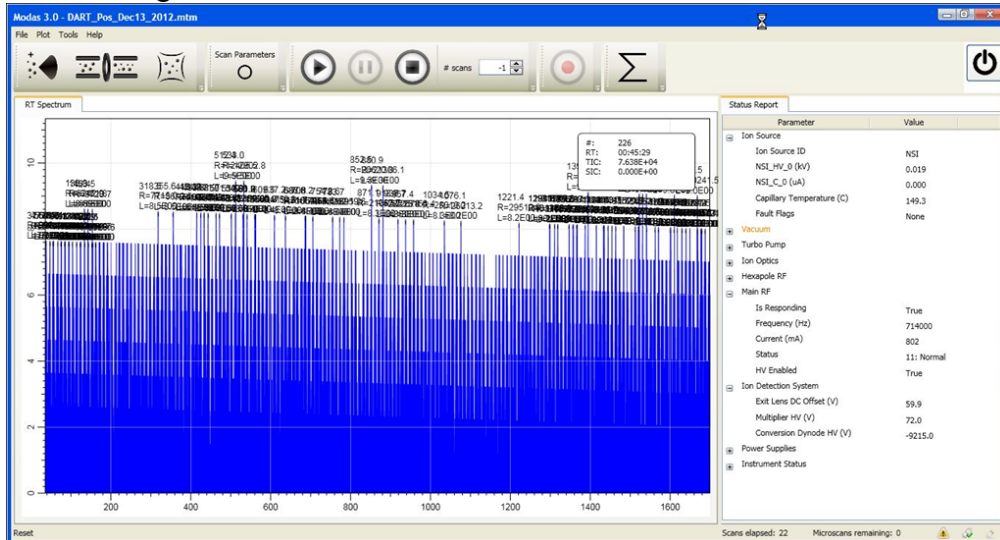

Figure 7.8. Typical spectrum with Multiplier voltage set to zero.
- Acquire the spectrum. The noise level should be around 5..10, as shown in Figure 7.8.